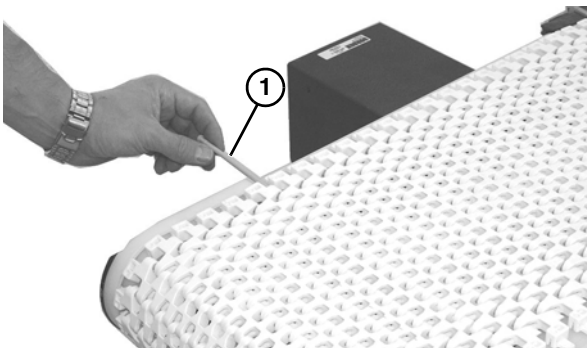

Figure 15
6. Insert the belt rod (**Figure 15, item 1**).